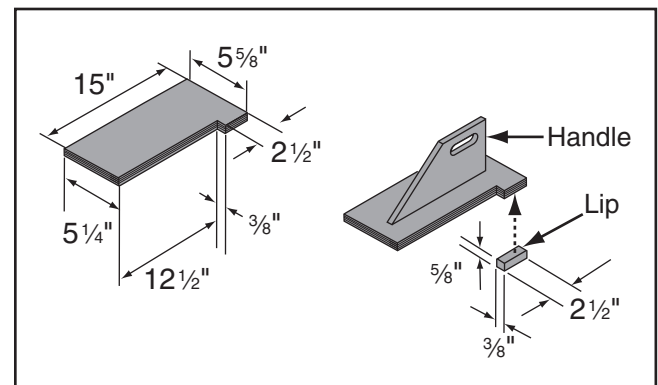

Figure 89. Push block dimensions and construction.
3. Using $\frac{3}{4}$ " material you used in previous steps, cut out pieces for push block per dimensions shown in **Figure 89**; for handle, cut a piece 10" long by 5"–9" high and shape it as desired to fit your hand.